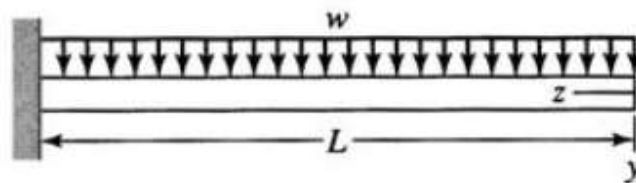

Figure 5
8. The cantilever beam in Figure 5 is subjected to a uniformly distributed load 'w'. Determine the deflection of the free end by including the shear strain energy effect also.